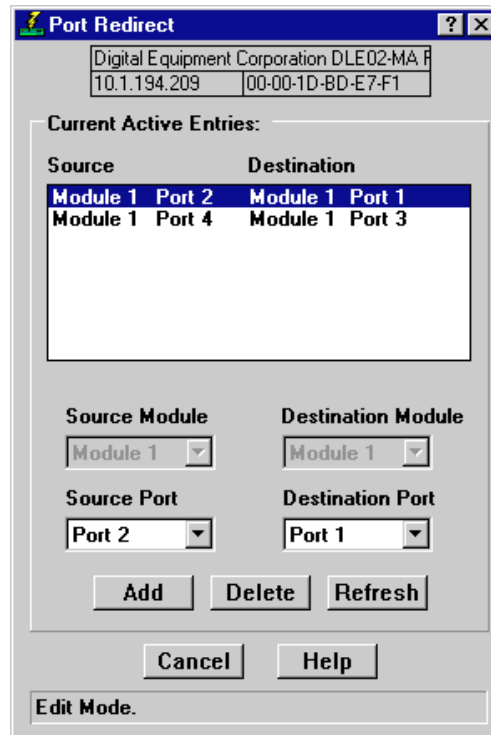

Figure 2-20. The Port Redirector Window
The Port Redirector window (Figure 2-20) allows you to redirect traffic from one or more interfaces directly to another interface — essentially mirroring the traffic at the “redirect” interface. This feature is useful in that it allows you to use an external analyzer on the “redirect” port to analyze data, without disturbing the normal switching operations at the original source ports. The Port Redirector window displays the interface remap table and allows you to add new entries to and delete existing entries from this table. When you set a source port to redirect to a destination port, the destination port will transmit out all packets received or transmitted on the source port.
2. Select **Port Redirector**. The Port Redirector window, Figure 2-20, opens.